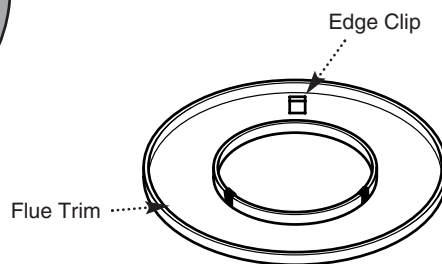

Fig. 66
b) Take the three edge clips from the kit and fit them equi-spaced onto the inner flange of the trim (Fig. 66).